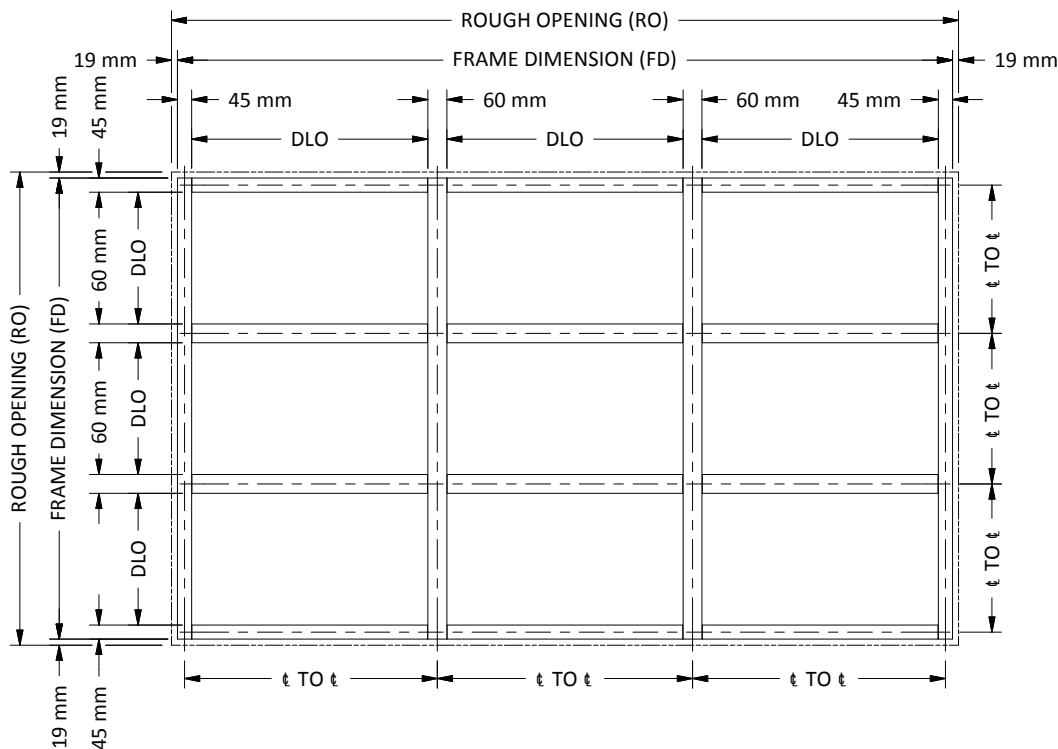

Figure 3: Typical Fireframes Frame Elevation
- a. As a standard, most frames are shipped “K-D” (knock-down) and are to be assembled on site. Depending on the size and/or the manufacturer's preference, some curtain wall components may be pre-assembled or welded in the factory. Figure 3 shows the typical elevation of a curtain wall frame construction.